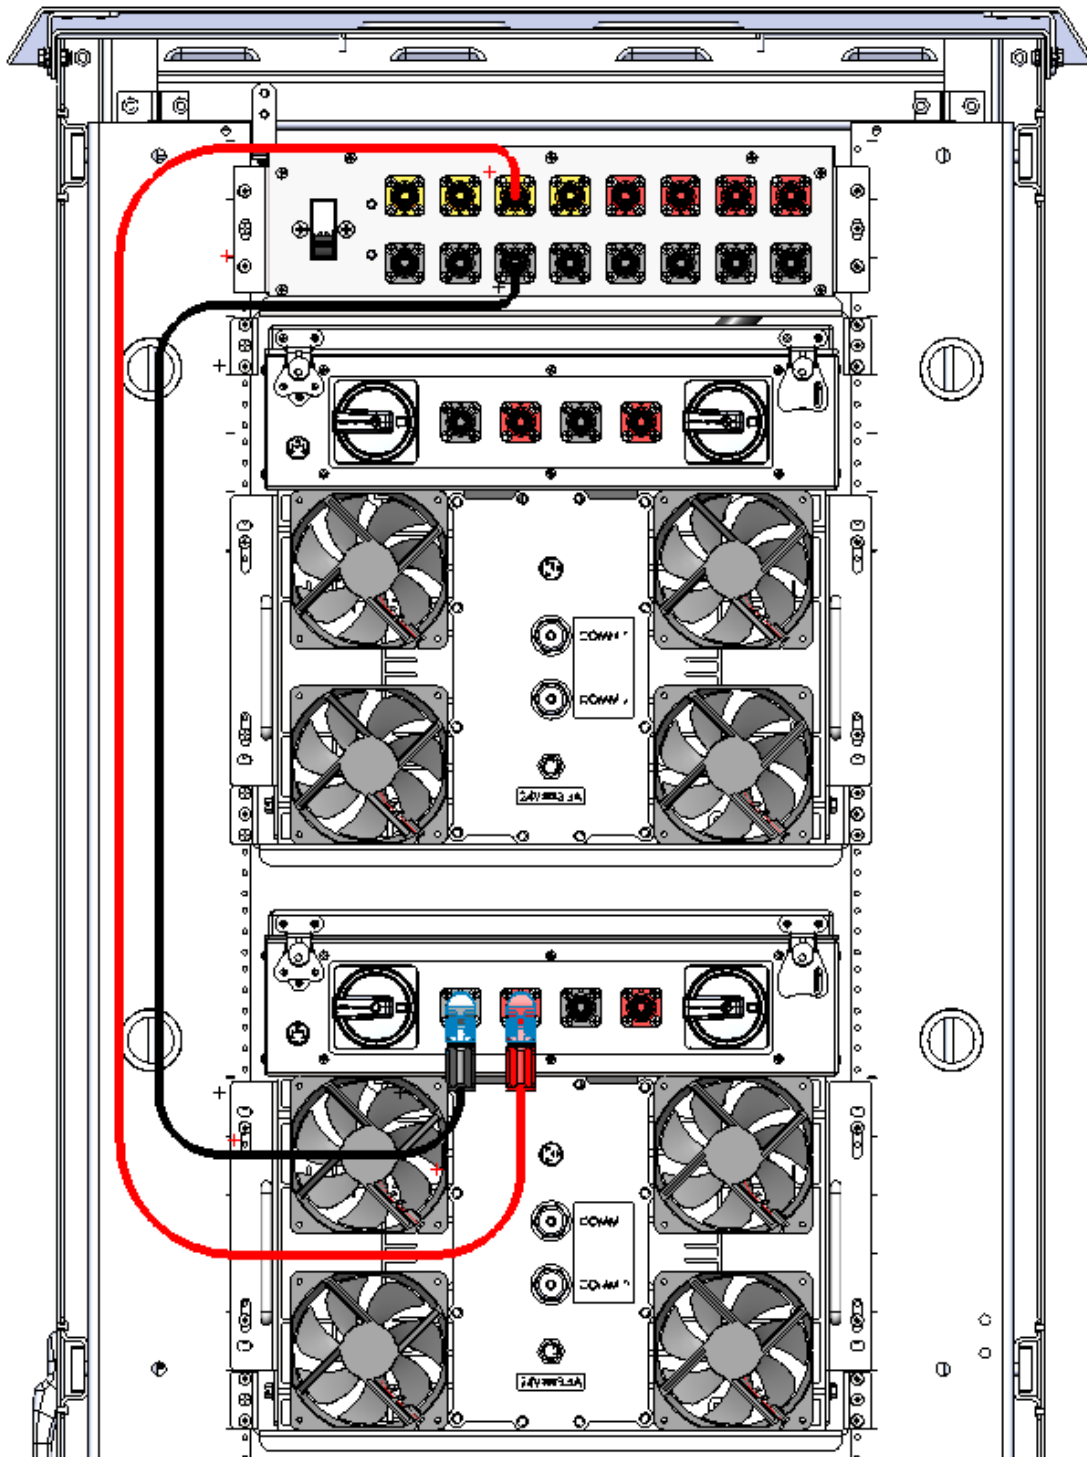

FIGURE 23: SURLOK CABLING ROUTED TO PRIMARY (INPUT) FEED #2
- (2) 5-foot SurLok Cables for SPOT #2 shown in Figure 23.